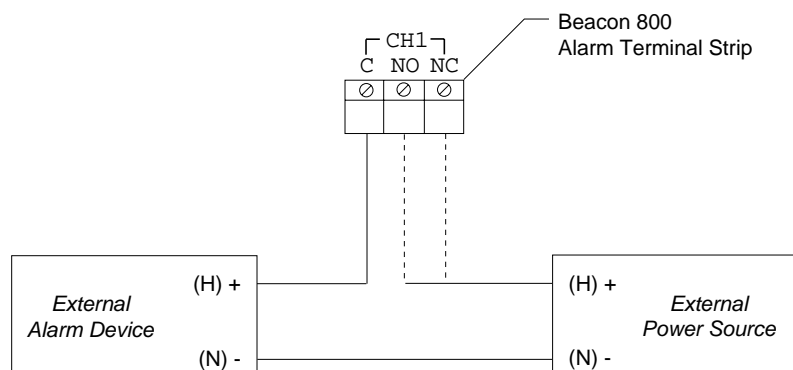

Figure 8: External Alarm Wiring
4. Connect the leads from the external alarm device to the alarm terminal strip as shown in Figure 8.